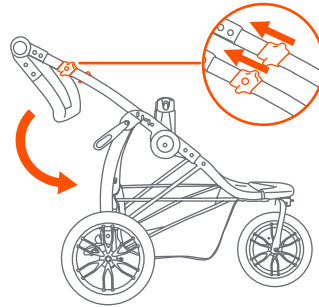
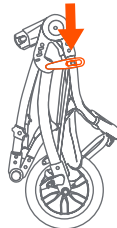

Fig. 20a
Fig. 20b
- Fold the stroller by pulling both release triggers (Fig. 20a) and push handle toward the floor. Make sure the front wheels lie flat, then secure the stroller in the folded position by locking the fold latch, located on the right side of the stroller, over the rivet (Fig. 20b).